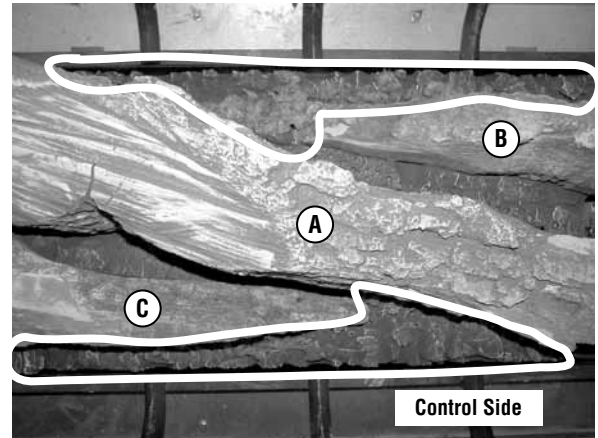

Figure 40: Placement of Glowing Ember Pieces
- Distribute the dime-sized pieces over the surface of the burner, in the areas shown in **Figures 40 and 41**.